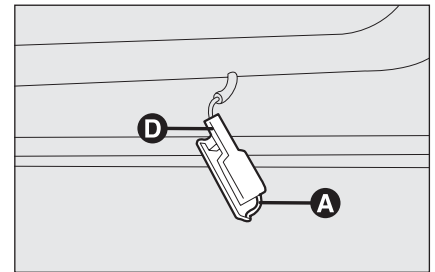

fig. 35
- remove the light by pressing clip **A**-**fig. 35** with a screwdriver;
- refit the ceiling light inserting first end **D-fig. 35** and then pressing the other end until hearing the locking click of the clip.